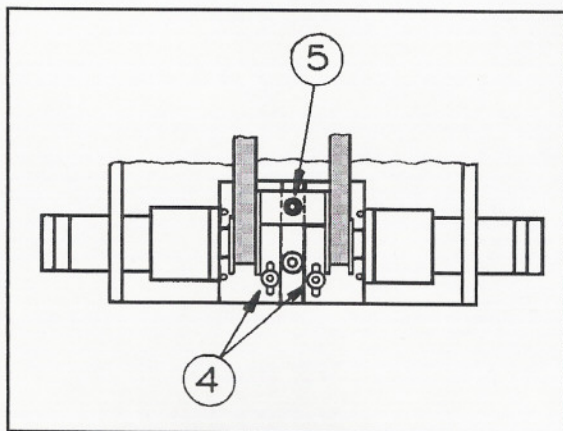

Figure 18: Tightening Belts in Robot Base
- Figure 18 shows how to tighten the two belts in the robot base which move the wrist axes. First, loosen the screw (5), and then loosen either one or both screws (4). Then, to tighten the belts, simultaneously pull the appropriate motor and retighten screw(s) (4). Finally, retighten screw 5.